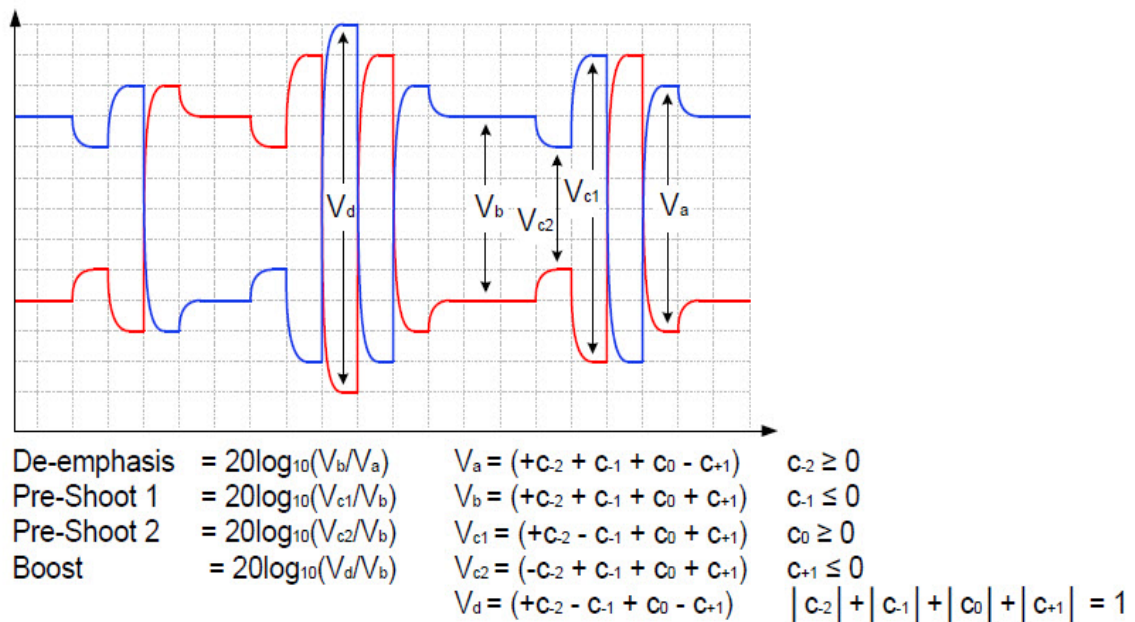

Figure 30 Waveform measurement points for preshoot and de-emphasis
64.0 GT/s PCIe signaling must support the full range of presets given in Table 8-2 (PCIe Base Specification Revision 6.0). Presets are defined in terms of ratios, relating the pre-cursor and post-cursor equalization voltages. The pre-cursor (V_c) is referred to as pre-shoot, while the post-cursor (V_b) is referred to as de-emphasis. This convention permits the specification to retain the existing 2.5 GT/s and 5.0 GT/s definitions for Tx equalization, where only de-emphasis is defined, and it allows preshoot and de-emphasis to be defined such that each is independent of the other. The tolerances in Table 8-1 (PCIe Base Specification Revision 6.0) also apply to 2.5 and 5.0 GT/s de-emphasis. The maximum swing, V_d , is also shown to illustrate that, when both c_{+1} and c_{-1} are nonzero, the swing of V_a does not reach the maximum as defined by V_d . The high frequency nature of PCIe signaling makes measurement of single UI pulse heights impractical. Consequently all amplitude measurements are made with low frequency waveforms as shown in Figure 30.
- 13 Computes their equalization voltages by using Matlab, and then calculates equalization ratios by using the formulae stated in Figure 30 (Figure 8-6 of the spec).